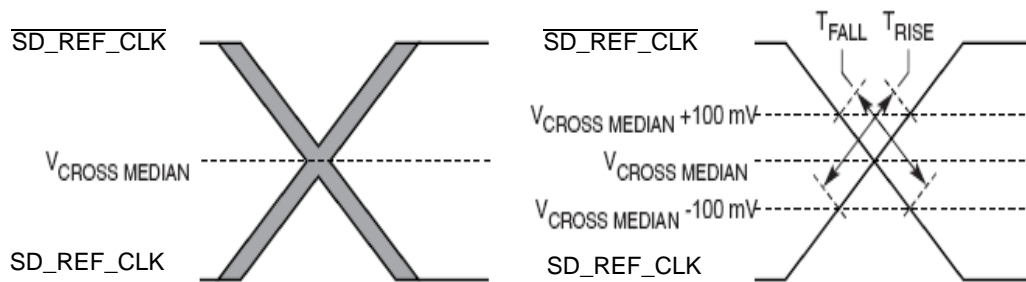

Figure 25. Single-Ended Measurement Points for Rise and Fall Time Matching
4. Matching applies to rising edge rate for SD_REF_CLK and falling edge rate for $\overline{\text{SD_REF_CLK}}$. It is measured using a 200 mV window centered on the median cross point where SD_REF_CLK rising meets $\overline{\text{SD_REF_CLK}}$ falling. The median cross point is used to calculate the voltage thresholds the oscilloscope is to use for the edge rate calculations. The Rise Edge Rate of SD_REF_CLK should be compared to the Fall Edge Rate of $\overline{\text{SD_REF_CLK}}$, the maximum allowed difference should not exceed 20% of the slowest edge rate (See Figure 25).